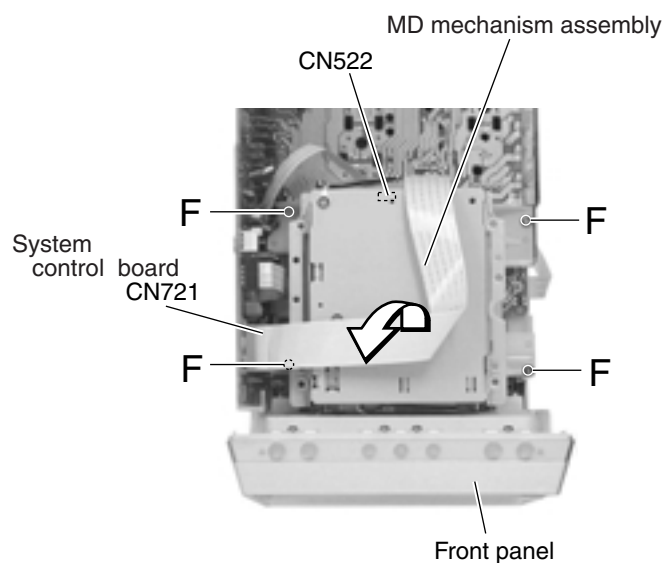

Fig.8
■ Removing the MD mechanism assembly section (See Fig.8)